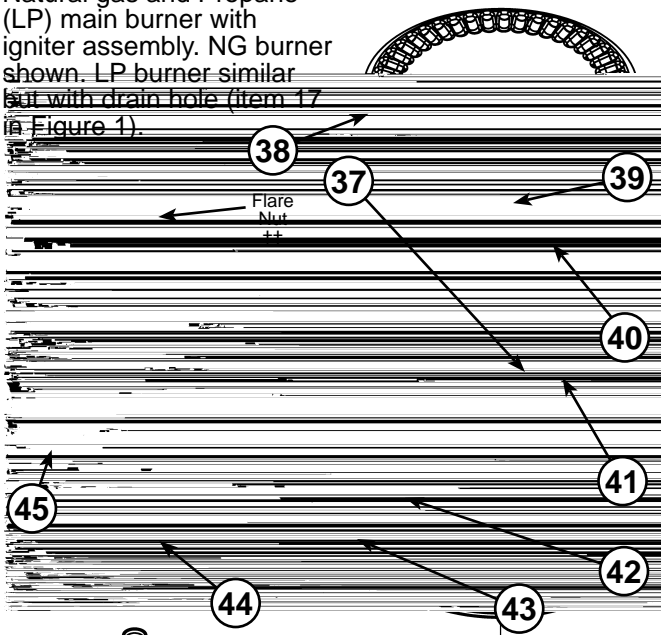

Figure 55.
- 17 Manifold Door Assembly (behind outer door) (see Figure 3) (see also **Figure 55**)
- 37 Flame Sensor Rod (see Figure 3) (see also **Figure 55**)
- 38 Sheet Metal Burner (see Figure 3) (see also **Figure 55**)
- 39 Gas Orifice (see Figure 3) (see also **Figure 55**)
- 40 Gas Manifold (see Figure 3) (see also **Figure 55**)
- 41 Hot-Surface Igniter (see Figure 3) (see also **Figure 55**)
- 42 Manifold Door Gasket (see Figure 3) (see also **Figure 55**)
- 43 Manifold Door (see Figure 3) (see also **Figure 55**)
- 44 Two Piece Grommet With Clip (see Figure 3) (see also **Figure 55**)
- 45 Viewport (see Figure 3) (see also **Figure 55**)